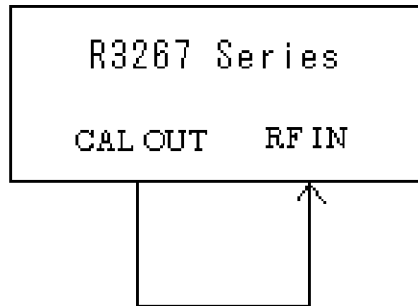

Figure 6-4 Setup of Simplified Performance Check
- 1. Connect equipment as shown in Figure 6-4.